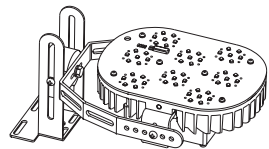

Figure 3
3. Adjust the length, height, etc. of the lamp body and bracket as per your specific requirements. see Figure 3.